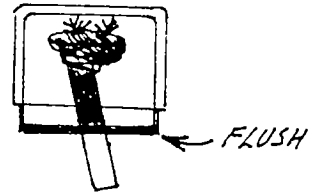

FIGURE 4
10. Grasp the pedestal mounted specimen by the protruding length of unpainted tube. Using an upended micromount box as a guide, twist, push, pull, rotate, etc., the shaft until the specimen is oriented so that the base of the pedestal is flush with the top of the box and the specimen is in the best viewing orientation (see Figure 4).